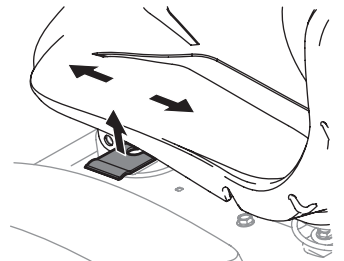

Figure 11
3. Release the adjustment lever. Make sure seat is locked into position before operating the tractor. See Figure 11.